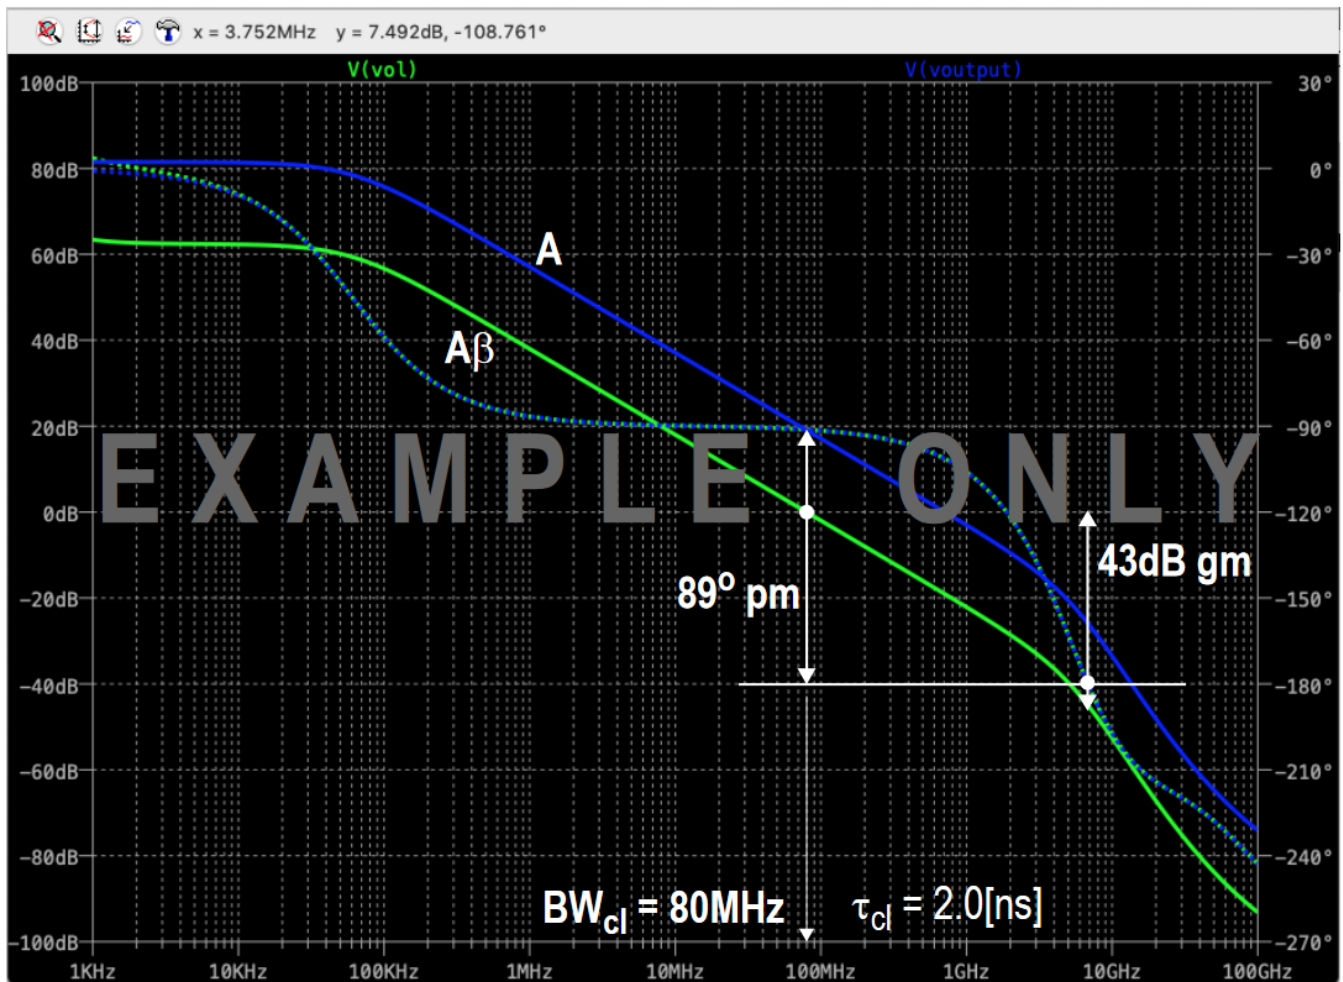

Fig.9. Bode-Diagram of A and A $\beta$ .
- 4) Bode-diagram of A and  $A\beta$  (including gain [dB] and phase), as shown in fig. 9. Please indicate  $BW_{cl}$  and  $\tau_{cl}$ .